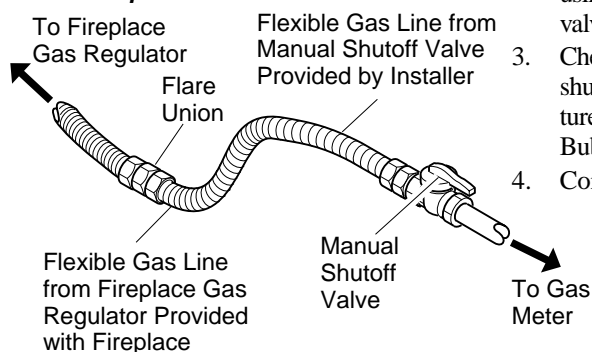

Figure 31 - Attaching Flexible Gas Lines Together
NOTICE: Most building codes do not permit concealed gas connections. A flexible gas line is provided to allow accessibility from the fireplace (see Figure 31). The flexible gas supply line connection to the manual shutoff valve should be accessible.
4. Attach a 45° flare union gas connector to flexible gas line from gas supply (see Figure 31). Connect flare union to flexible gas line attached to gas regulator of fireplace (see Figure 31).